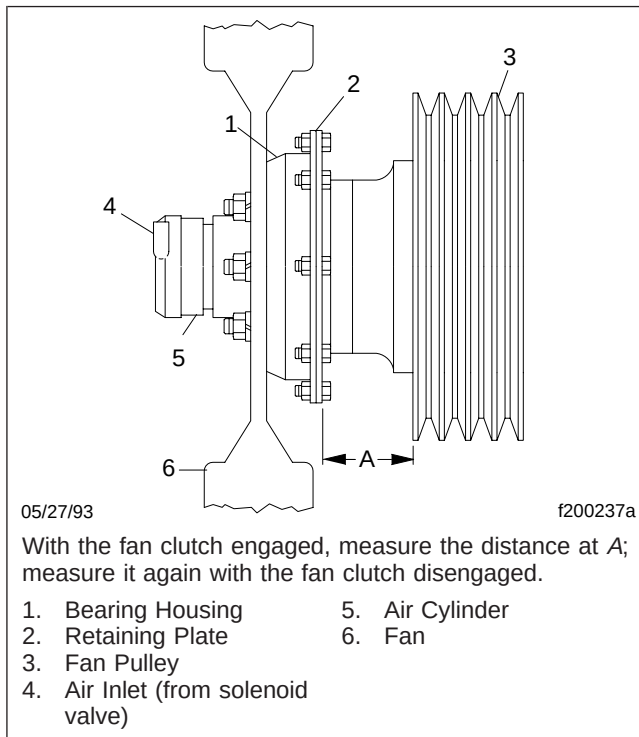

Fig. 8, Kysor K22RA Fan Clutch Lining Wear Checking
2. Measure the distance from the back surface of the fan clutch retaining plate to the forward-most edge of the fan belt pulley. See Fig. 8, Ref. A.